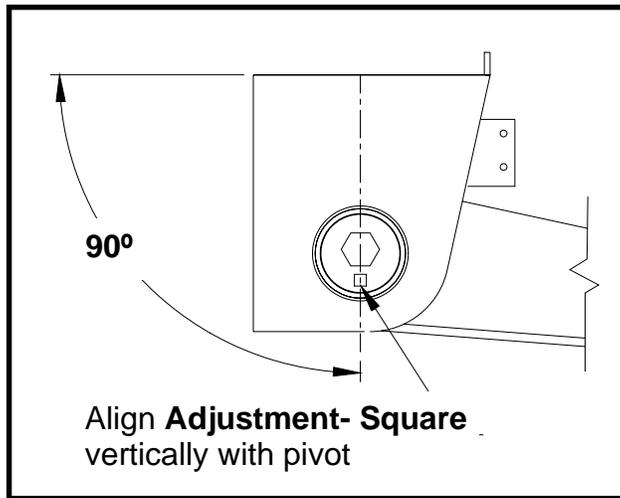

Figure 2
3. Start out with the Adjustment-Square vertically aligned with pivot as shown in **Figure 2**.